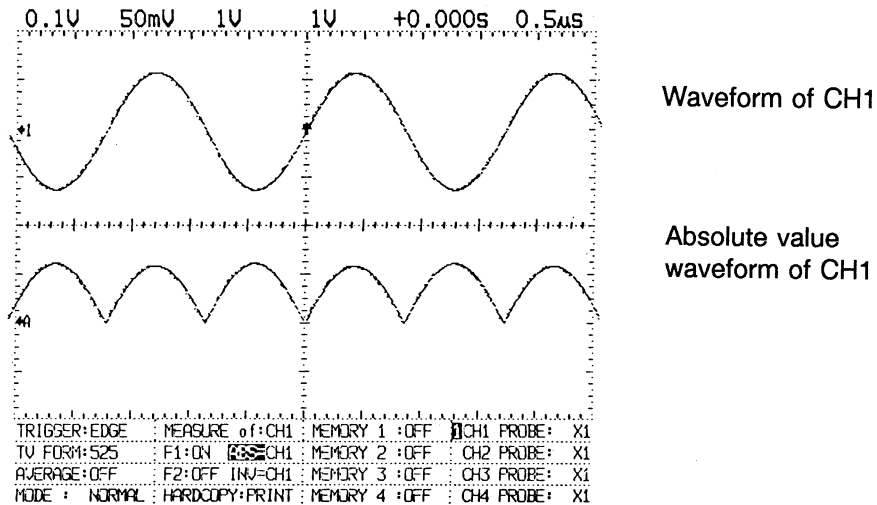

Fig. 6-27 Example of inverted waveform (INV) by operation 1 (F1)
(2) Display of absolute value waveform (ABS)
- An example to obtain the absolute value (ABSOLUTE) of CH1 is shown in Fig. 6-27.
- Perform the selection and setting as shown in Fig. 6-27.